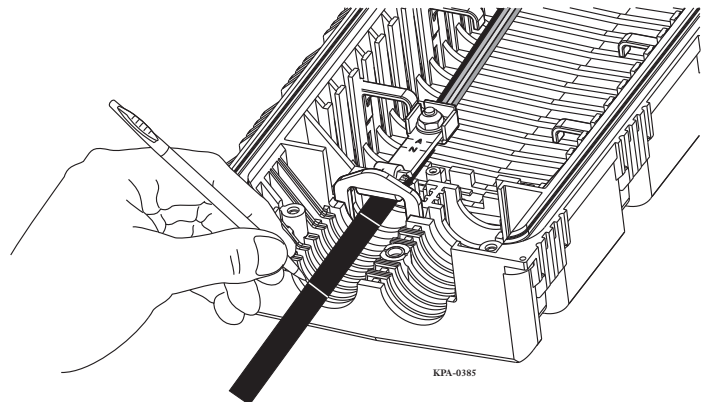

Figure 9
- Step 2:** Mark the cable where the sealing tape will be wrapped around the cable (Figure 9).